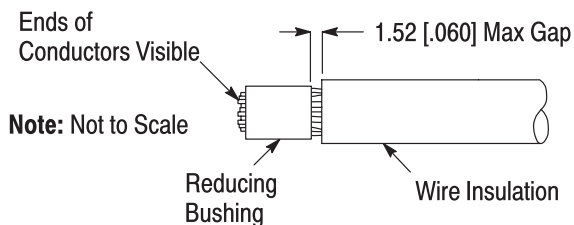

Figure 3
4. If using a reducing bushing, slide the reducing bushing onto the wire conductors to the dimension given in Figure 3. Make sure that the wire insulation DOES NOT enter the reducing bushing and the ends of the conductors are visible.